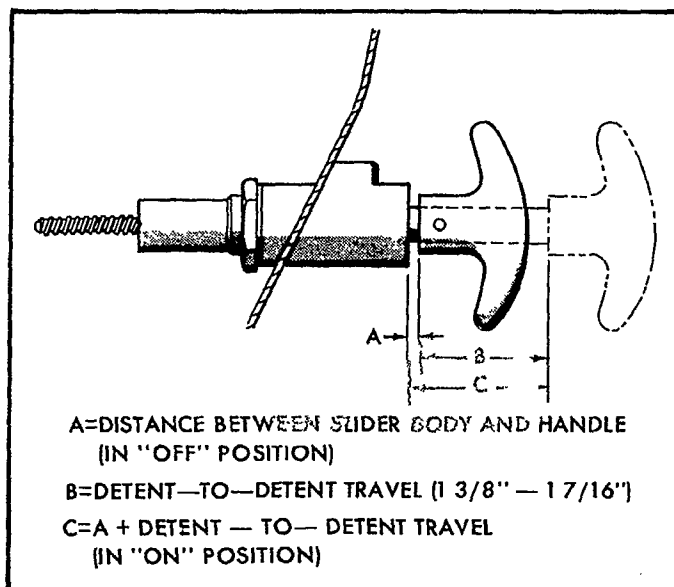

Figure 26
10. Place the handle in the "IN" detent position. Using a scale or other suitable measuring tool, measure the distance the handle travels from detent to detent or from the full "IN" to the "OUT" position. This distance must be within $1\frac{3}{8}$ - $1\frac{7}{16}$ in. (35.0-36.5 mm). If the measurement obtained is not within specifications, readjust the handle until the correct measurement is obtained. See Figure 26.